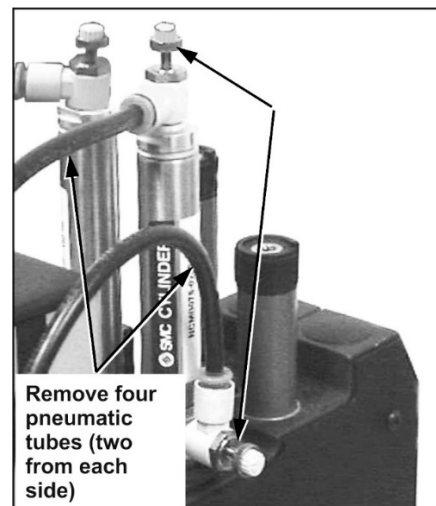

Figure 2-1 Removing Existing Air System Pneumatics
3. Note which way each of the four valve assemblies are facing. Remove the two existing valve assemblies from the top and bottom of each of the two air cylinders. Clean any pipe joint sealant from the cylinders (Figure 2-1).